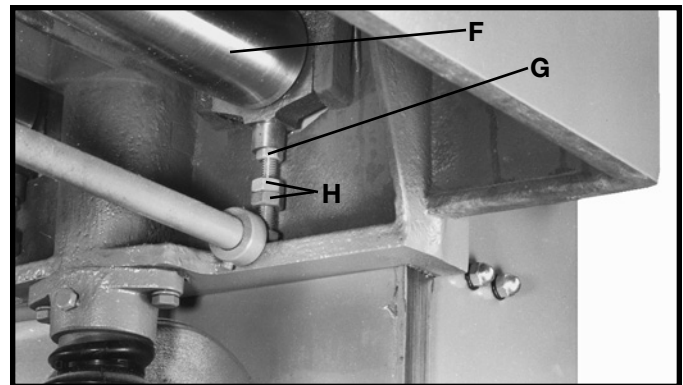

Fig. 26
7. If an adjustment to the outfeed table roller is necessary, loosen locknut (G) Fig. 26, which is located under the table and below the outfeed table roller (F), and rotate adjustment nuts (H) as necessary, to raise or lower the height of the outfeed roller (F). **NOTE:** It will be necessary to raise the table to gain access to the adjustment nuts. Tighten locknut (G) Fig. 26, after the adjustment is made.